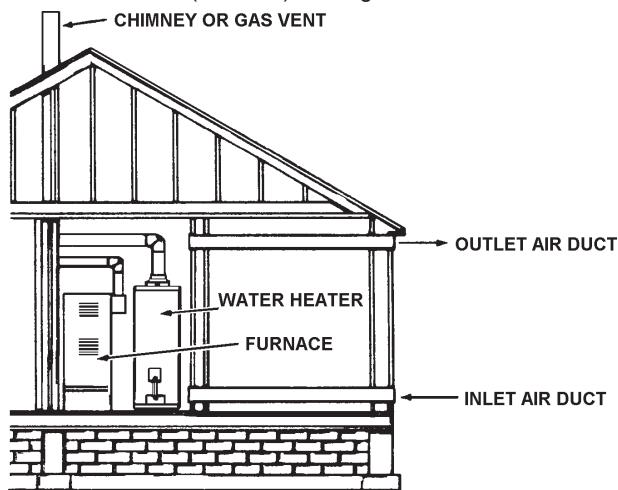

FIGURE 8.
- When communicating with the outdoors through horizontal ducts, each opening shall have a minimum free area of 1 square inch per 2,000 Btu per hour ($11 \text{ cm}^2/\text{kW}$) of total input rating of all equipment in the enclosure, see Figure 8.
- When ducts are used, they shall be of the same cross-sectional area as the free area of the openings to which they connect. The minimum short side dimension of rectangular air ducts shall not be less than 3 inches (76.2 mm), see Figure 8.